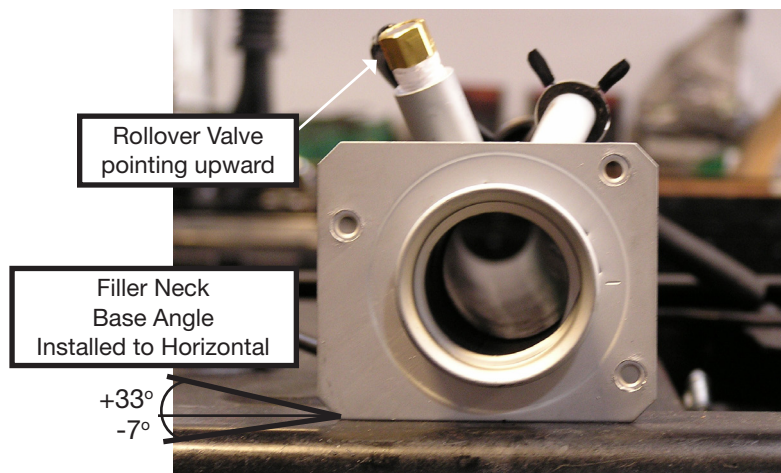

Figure 10.34.2
The roll-over valve has a hose attachment that will make this valve less sensitive to water intrusion. In order for the valve to work properly, it is critical that the hose be installed to the rollover valve. The proper assembly of the outer hose is shown in **Figure 10.34.2.1**.
The fuel filler neck (5) must be installed with the proper orientation on the body. The neck should be installed with the roll-over valve pointing upward, with the bottom edge of the neck oriented parallel to the ground, plus 33 to minus 7 degrees. See **Figure 10.34.2.1** for the proper orientation.